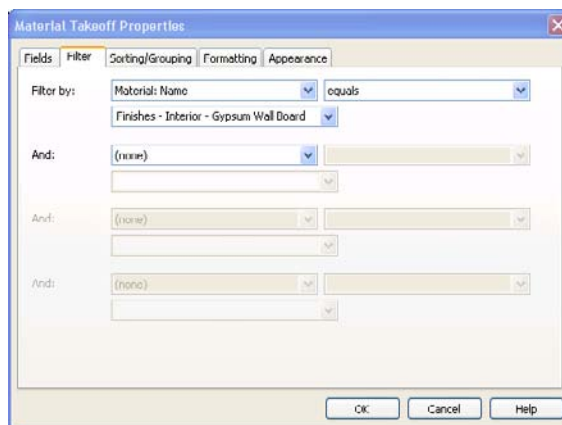

Figure 12.14
4. On the Filter tab, set the Filter By fields to Material: Name, equals, and Finishes – Interior – Gypsum Wall Board (as shown in Figure 12.14).